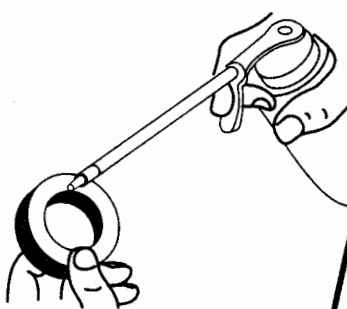

Fig. 39
4. Apply enough clean SAE 30 oil to lightly coat the filter (Fig. 39).